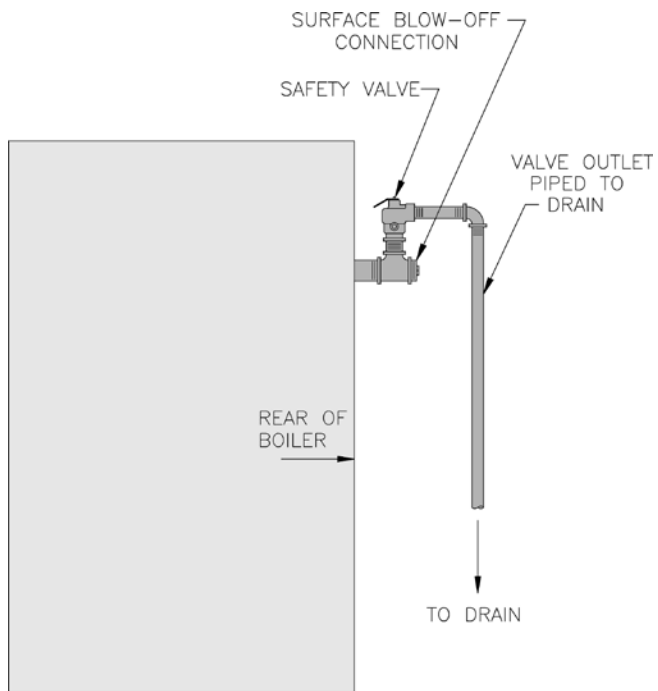

Figure 43: Steam Boiler - Safety Valve Hook-Up
1. Oil, greases & sediments which accumulate in a new boiler and piping must be removed in order to prevent an unsteady water line and carry over of the water into the supply main above boiler. Operate the boiler with steam in the entire system for a few days allowing the condensate to return to the boiler. If the condensate can temporarily be wasted, operate boiler only for the length of time it takes for condensate to run clear. If the latter cannot be achieved or if the condensate is returned to the boiler, boil out the boiler using the SURFACE BLOWOFF connection. See Figure 43.